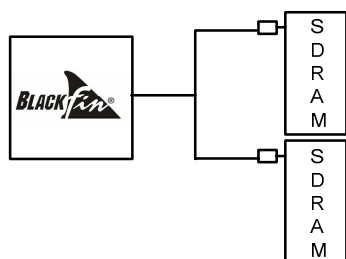
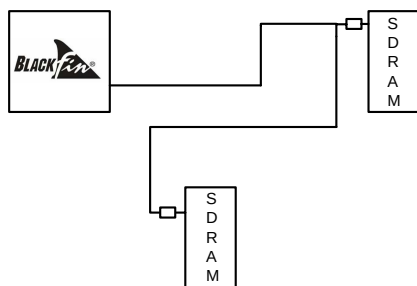

Figure 17. Right: spread traces and make their lengths equal
Figure 18. Wrong: traces that loop around
- When you are distributing a signal, all traces should have the same path length (Figure 17) to the devices (if possible). Avoid loops like the one shown in Figure 18.